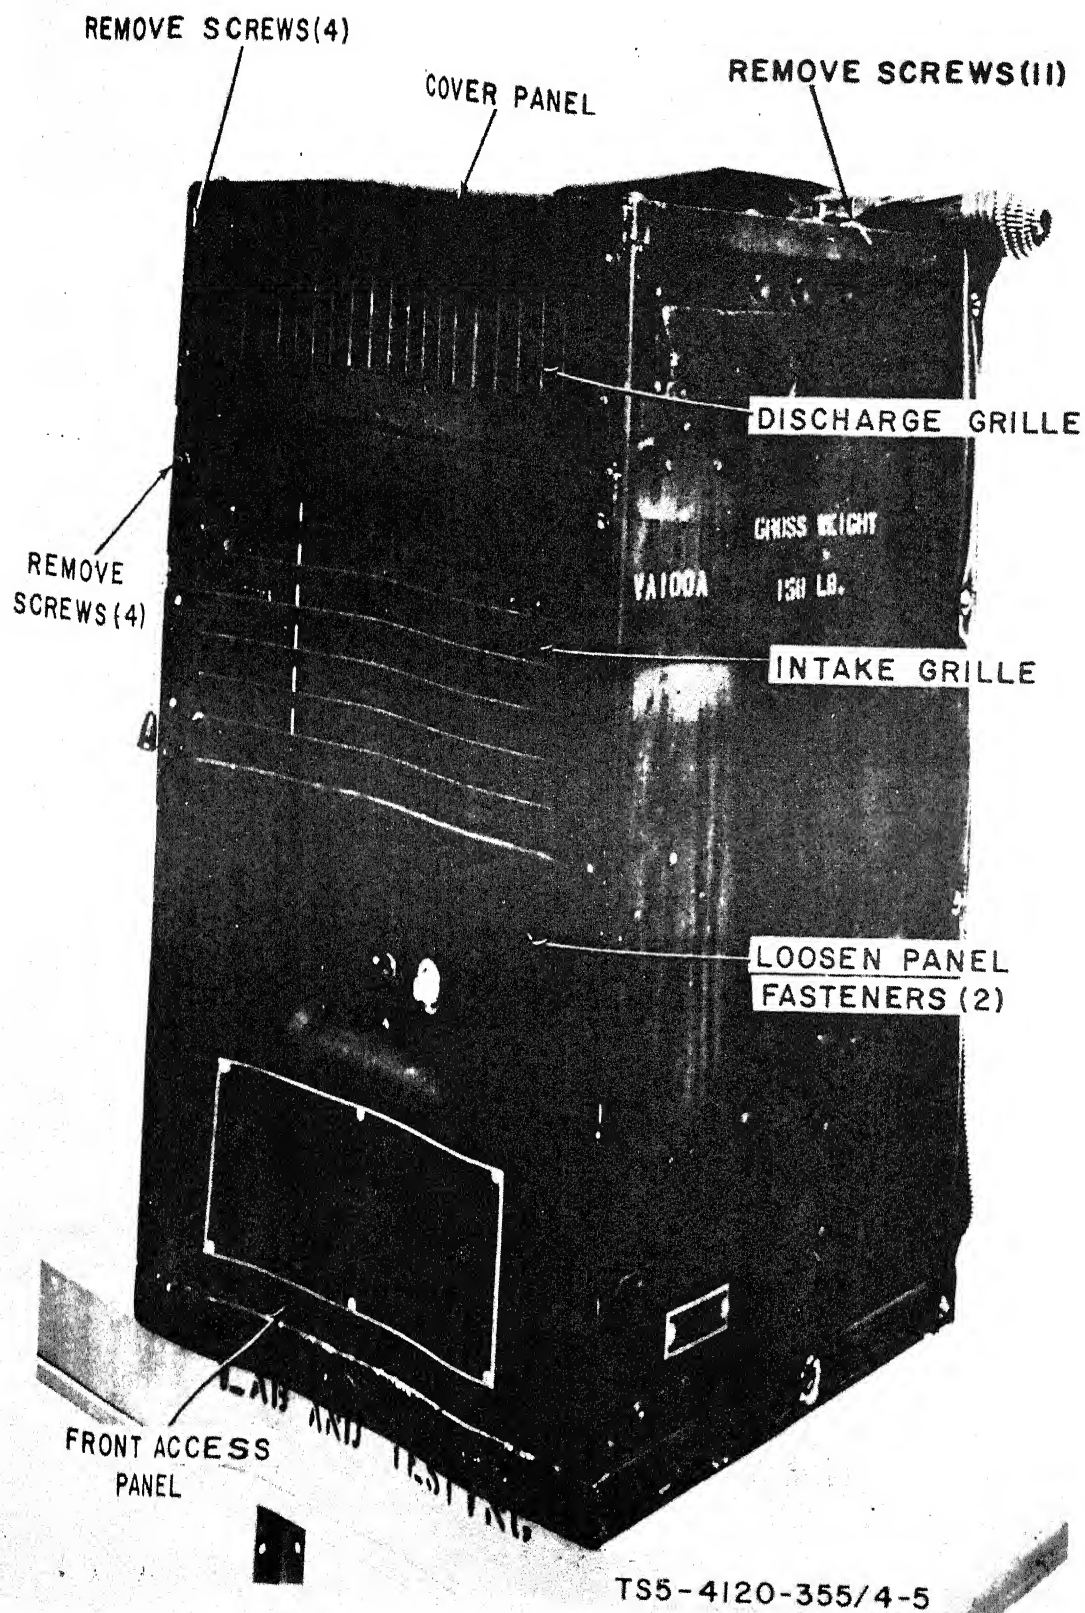

Figure 4-5. Discharge Grille, Intake Grille, Front Access Panel, Removal and Installation.
- a. **Removal.** Refer to figure 4-5 and remove panels and grilles.
- c. **Installation.** Refer to figure 4-5 to install panels and grilles.